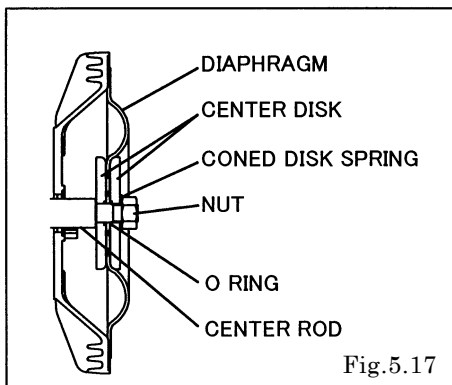

Fig. 5.17
- Keep the convex side to the outside (cf. Fig. 5.17).
- Put the O rings to both sides of the diaphragm. (cf. Fig. 5.17)